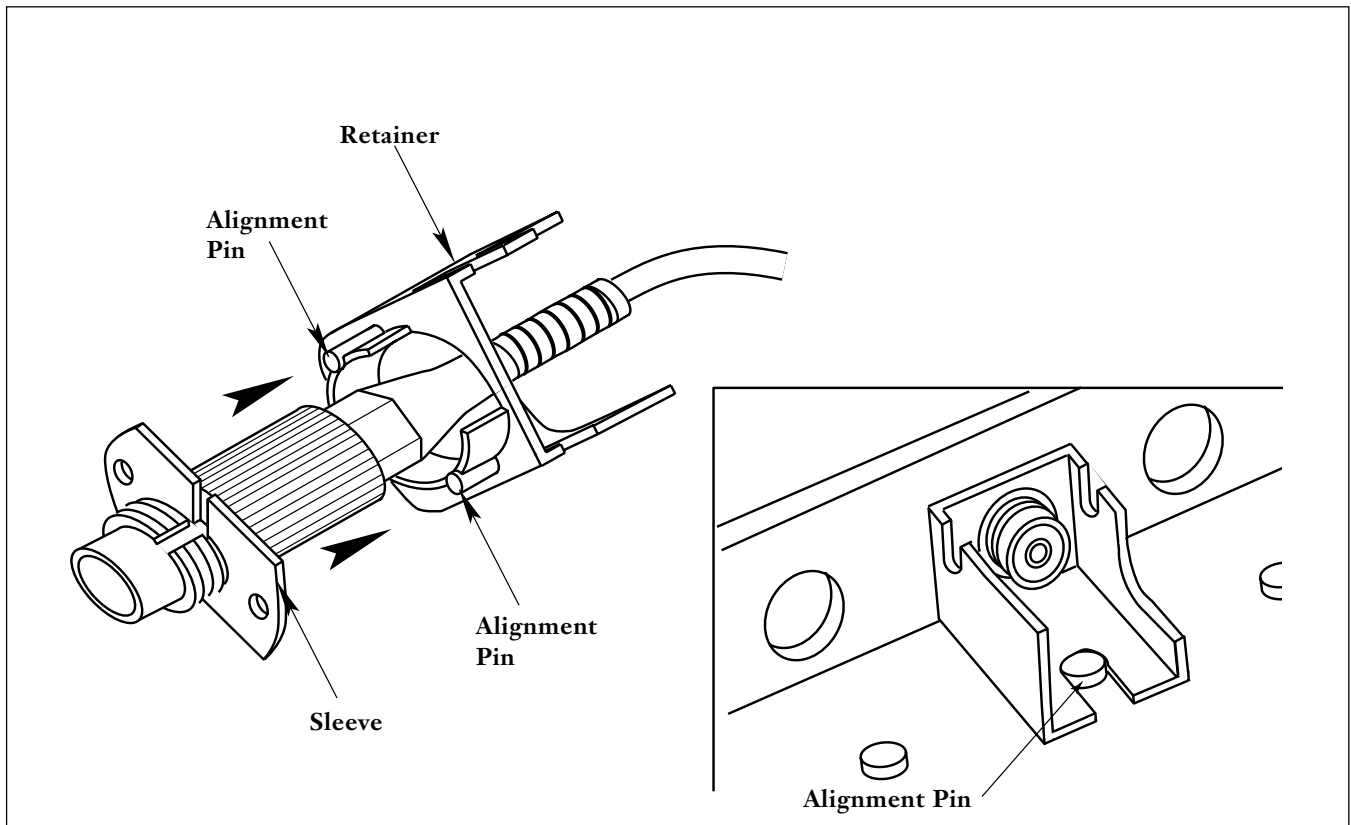

Figure 6
8.1 To install a connector, attach it to the connector sleeve and position the assembly (sleeve and connector) against the retainer so that the pins in the retainer hold the assembly in place (Figure 6). Slide the resulting assembly (sleeve, connector and retainer) into the module and push down on the retainer to snap it into place.